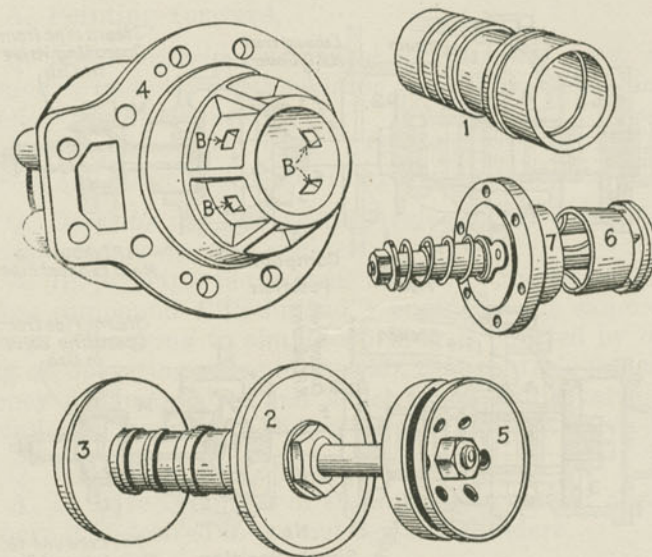

Fig. 347. Intercepting Valve Parts, Articulated Compound Engine.
A. Fig. 347 shows its various parts. They are shown assembled and in their relation to the steam passages in the cylinders in Figs. 348 to 352, inclusive. Parts 2, 3 and 5 of Fig. 347 show the intercepting valve proper. Part 1 is the reducing valve or sleeve that fits on the stem of the intercepting valve, along which it is free to slide lengthwise as seen in Figs. 348 and 349.
A. It is seen in Part 6 of Fig. 347 and is the only not entirely automatic part of the intercepting mechanism; being under the engineman's control through an operating valve in the cab. It is at one of the outer ends of the intercepting-valve chamber. (See Figs. 348 to 352.)